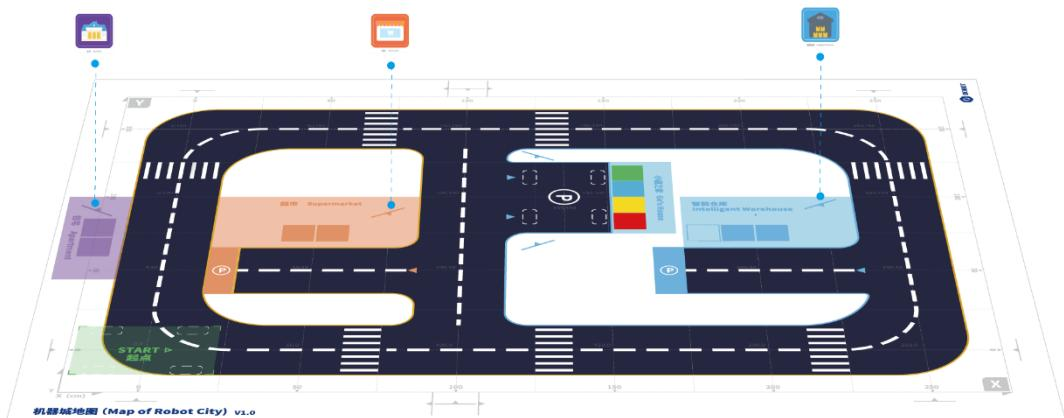

Figure 5.5 Position of area sign
The area signs are shown in Table 5.3. They must be placed according to Figure 5.5.
3. Express boxes include international express, domestic express and Intra-city express, as shown in Figure 5.5. When simulating express delivery, please place the express according to the suggested position in Figure 5.7, and ensure that the express box is placed on the intelligent warehouse shelf or intelligent express cabinet.